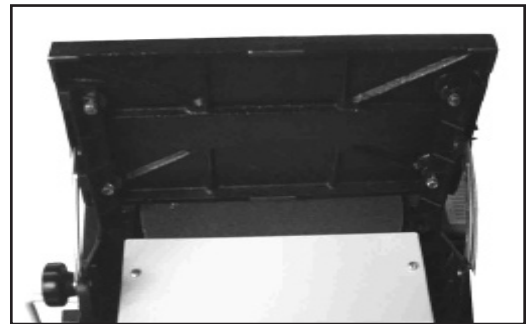

Fig. 05
4. Place the table onto table support; align the four screws which are pre-assembled under the table with the holes of table support. (See Fig. 05)